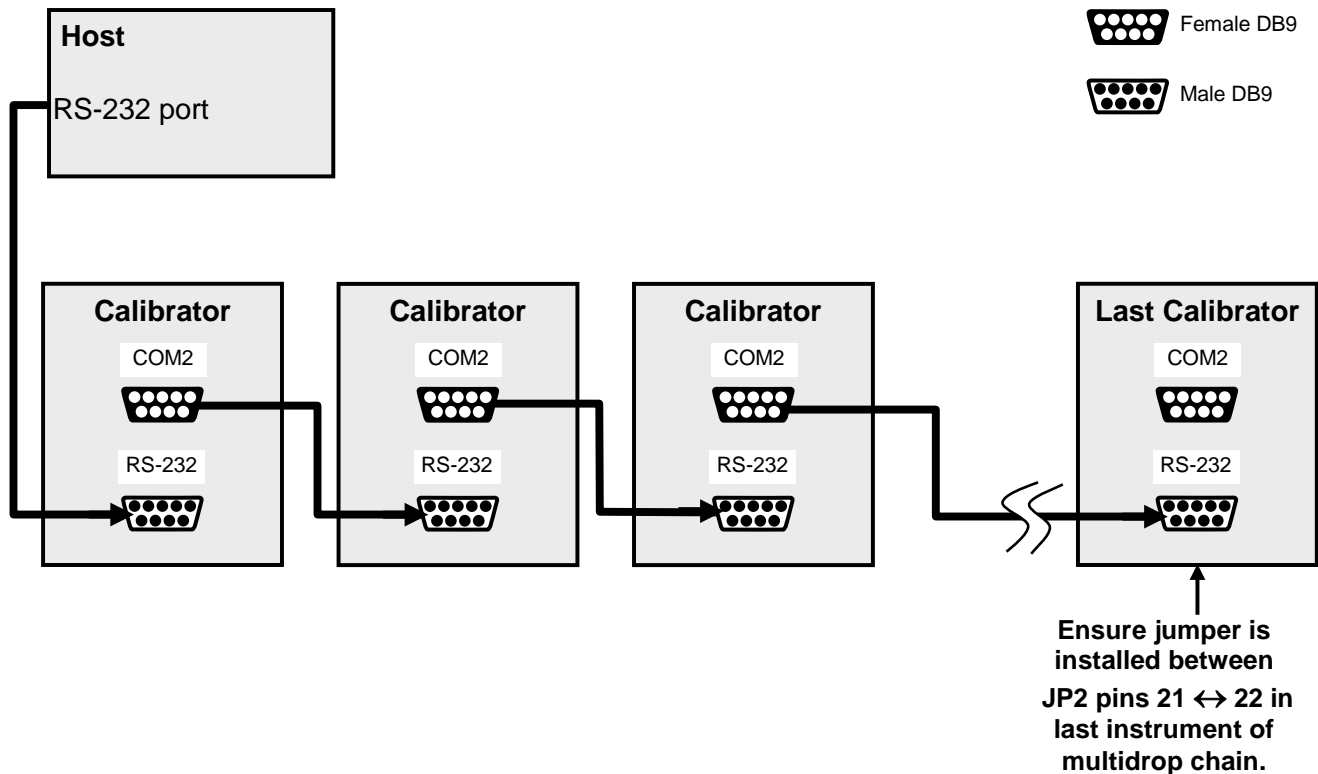

Figure 3-13: RS-232-Multidrop PCA Host/Calibrator Interconnect Diagram
5. Referring to Figure 3-13 use straight-through DB9 male → DB9 female cables to interconnect the host RS232 port to the first calibrator's RS232 port; then from the